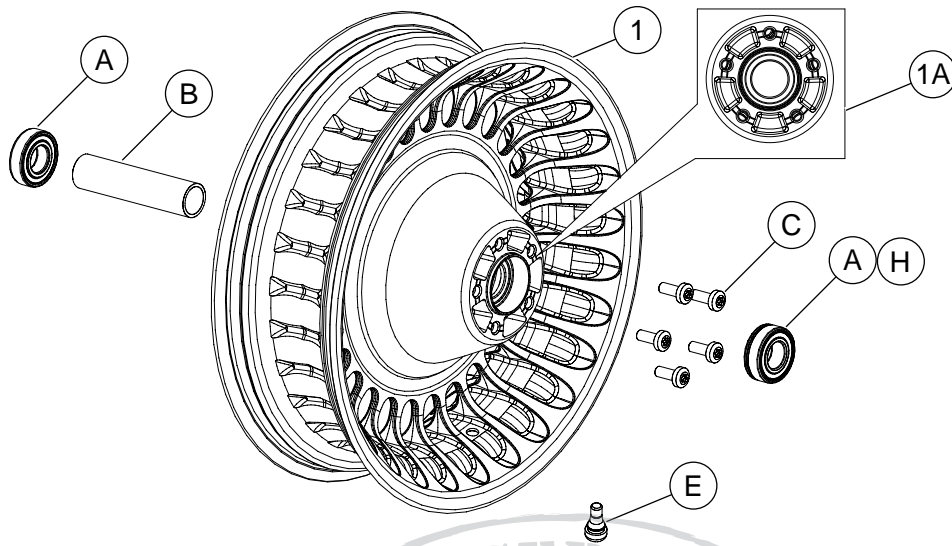

Figure 1. Service Parts: Rear 28-Spoke Wheel (16 inch shown)
See Figure 1 and the Service Parts Tables.
2. See Figure 1. Install valve stem assembly (E) on wheel. Refer to the service manual.
5. Install rear wheel (1), stock axle, sprocket and stock spacers to motorcycle. See the service manual.